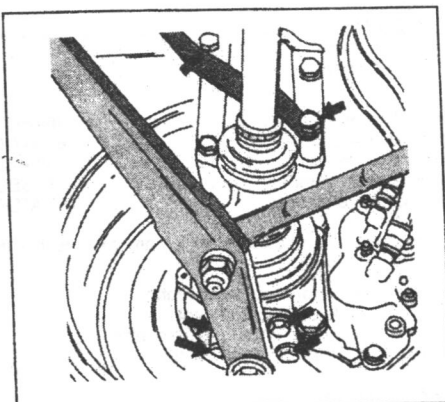

Fig. 1.2. — Suspension ball joint and steering lever must be disconnected from the steering knuckle.
- Remove the bolts shown in Fig. 1.2 to free the suspension ball joint from the steering knuckle (lower arrows) and the steering lever (upper arrows).